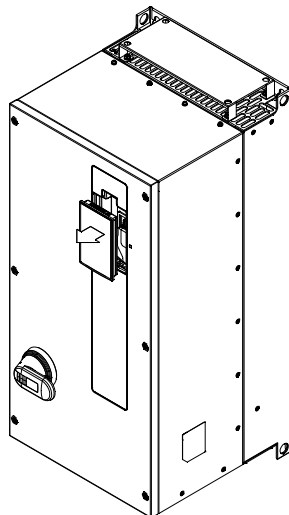

Figure 6-13
- 1) Remove the keypad. (As shown in figure 6-13)